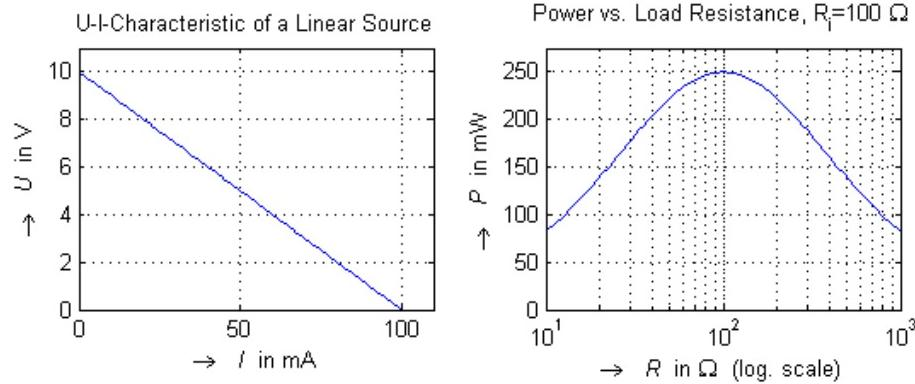

Figure 2.2.: Characteristic and Power Delivery of a Linear Source
Both realizations are equivalent in so far that their behavior cannot be distinguished at the connectors, that is when considering the voltage U , the current I , and the energy flow (power) $P = UI$ at the connectors (see figure 2.2). It is generally useful to utilize the conductances instead of the resistances when the elements are connected in parallel as in the case of the current source.
- Work out the formula for $P = f(R)$ and draw the expected curve and the measured points in a P-R-graph (see figure 2.2, right side). Try to work out for which load resistance one would get maximal power out of both source types?